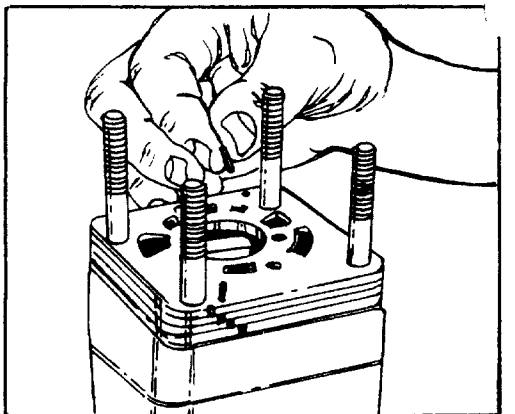

FIGURE 16.
- 18. Remove the two alignment pins (11) that align the port manifold (8), valve ring (12) and isolation manifold (15). See figure 16.